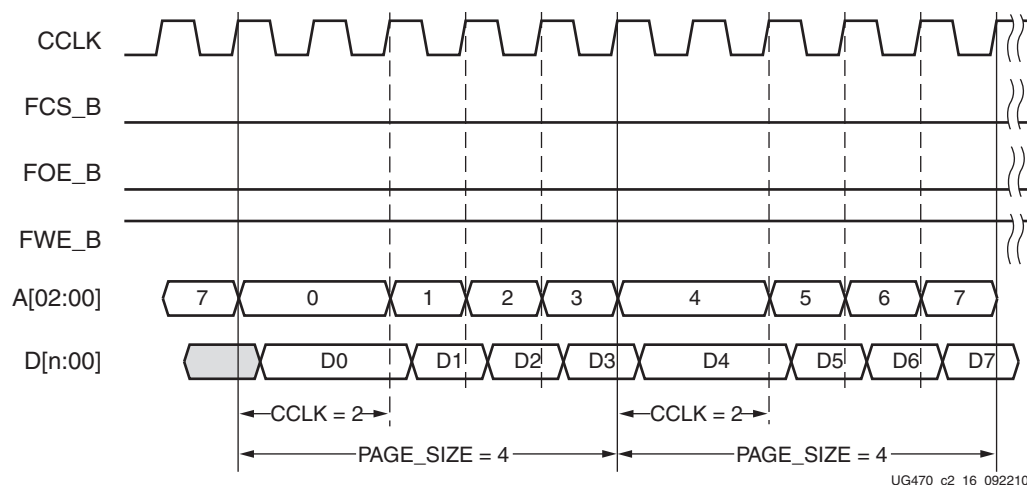

Figure 2-16: BPI Waveforms (Page Size = 4 and First Access CCLK = 2)
is running at slowest default frequency. The COR0 register contains master CCLK frequency control bits (see Configuration Options Register 0 \(01001\), page 94). The COR1 register contains BPI flash page mode control bits (see Configuration Options Register 1 \(01110\), page 97). After the COR1 register is programmed, the BPI address timing switches at the page boundary as shown in Figure 2-16. When the SWITCH command is received, the master CCLK switches to a user-desired frequency, using it to load the rest of the configuration. Refer to the BitGen section of the *Command Line Tools User Guide* for details on BitGen options.
Notes related to Figure 2-16:
1. Figure 2-16 shows BPI mode, a page size of 4, and a first access CCLK of 2.